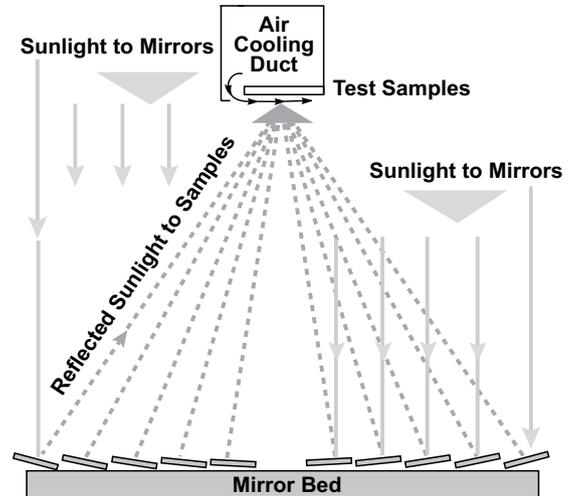

Figure 1 - The Q-TRAC unit is a Fresnel concentrator. The sunlight is reflected and concentrated by the 10 mirrors directly to the target board.
**The Mirror Array.** The Q-TRAC concentrator uses a series of 10 flat mirrors to produce the effect of a single larger curved mirror. This type of mirror array is called a Fresnel concentrator (pronounced Fruh-nell). As light strikes the mirrors, at nearly a 90 degree angle, it is reflected and is concentrated onto the target board (figure 1).